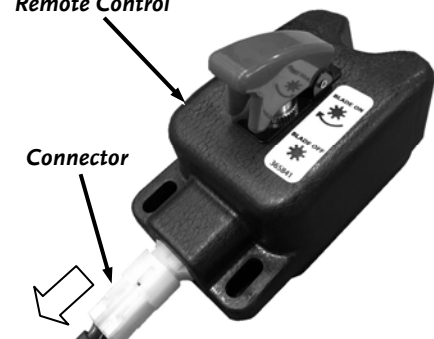

Figure 6
2. Pull the Connector from the Blade Engage/Disengage Remote Control (Figure 6).
4. Plug the Connector into the Blade Engage/Disengage Remote Control (**Figure 6**).